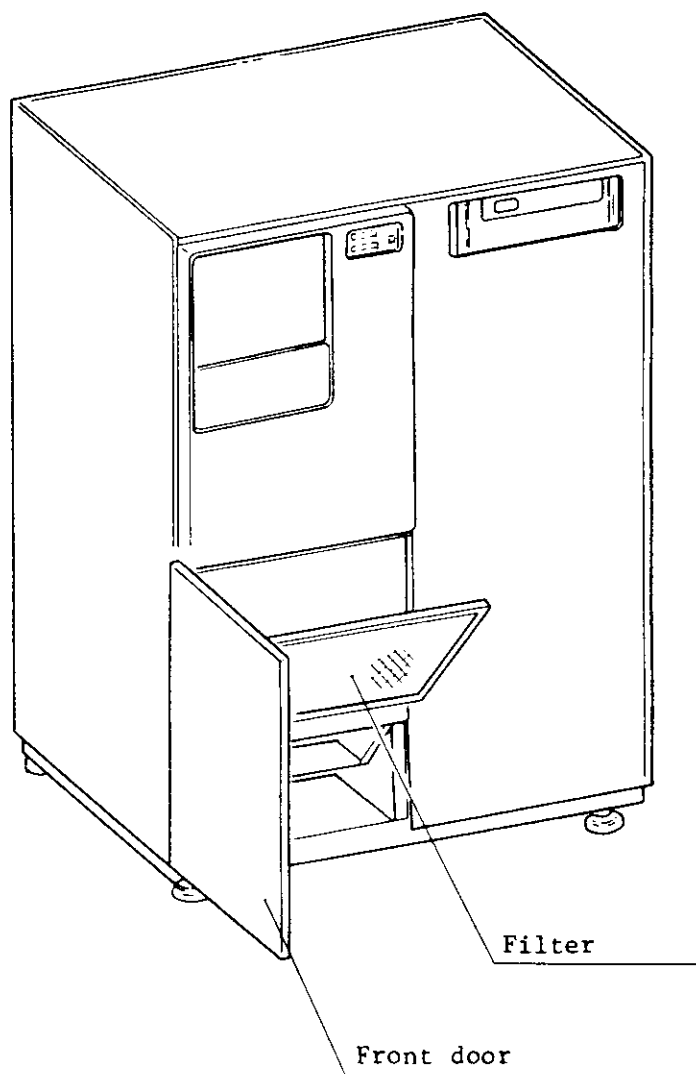

Figure L.41 Air filter
- (1) Open the lower left-hand front door of the MTU and remove the filter shown in Figure L.41.
- (2) Clean the filter (J11).